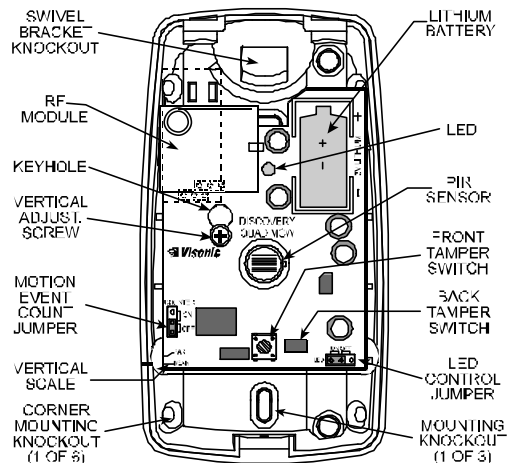
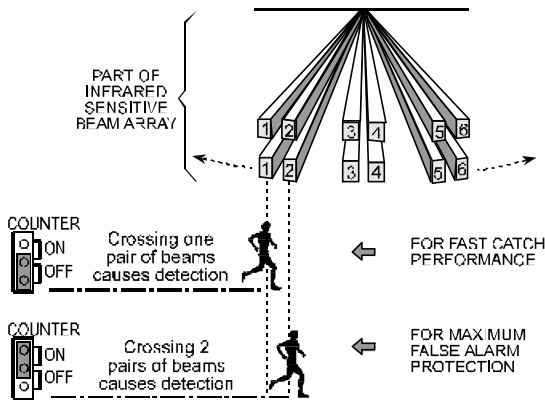

Figure 4. Inside View
Figure 9. Motion Event Counter Setting Options
B. Insert the battery into the battery clip - observe polarity (see Figure 4).
2nd. Loosen the vertical adjustment screw, slide the PCB down and remove it via the "keyhole" (see Figure 4).
The location of the motion event jumper is shown in Figure 4. Refer to Figure 9 below and mount the jumper as desired.